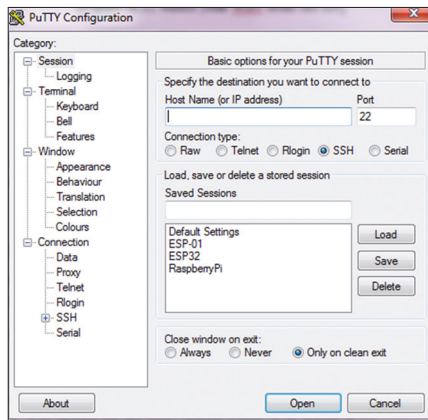

Figure 1.9: Putty startup screen.
- Putty is a standalone program and there is no need to install it. Simply double click to run it. You should see the Putty startup screen as in Figure 1.9.